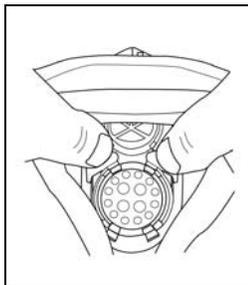

Fig. 19
2. To replace, position nose cup assembly onto lens assembly by aligning hard plastic ring on nose cup with lens assembly and pressing firmly on center tabs until bottom nose cup tabs snap in place. (Fig. 19)
9. Replace nose cup assembly. (Fig. 19)
6. Replace nose cup assembly. (Fig. 19)
13. Replace nose cup assembly. (Fig. 19)